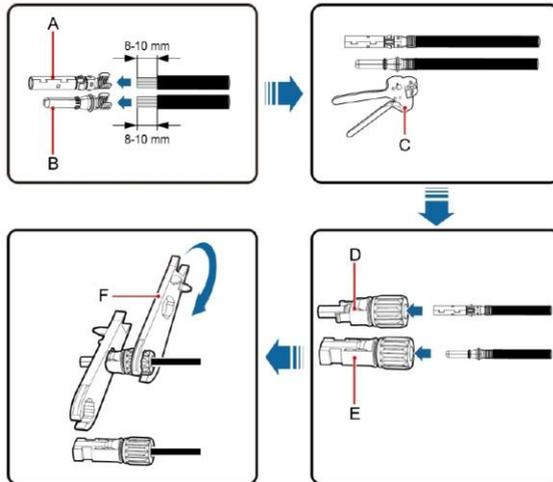

Fig 5.2 Connection of MC4 DC connector and PV string
(1) Connect the output cables of solar modules to the DC connector as fig 5.2 shows. Loosen the nut of connector and remove the isolation layer of the DC cable for about 15mm. Insert it into the connector and press until hear the lock sound. Finally tighten the nut to a torque of 2.5-3 Nm. The wiring of negative pole is the same as that of the positive pole. Ensure the poles of solar modules are well connected with the connectors.